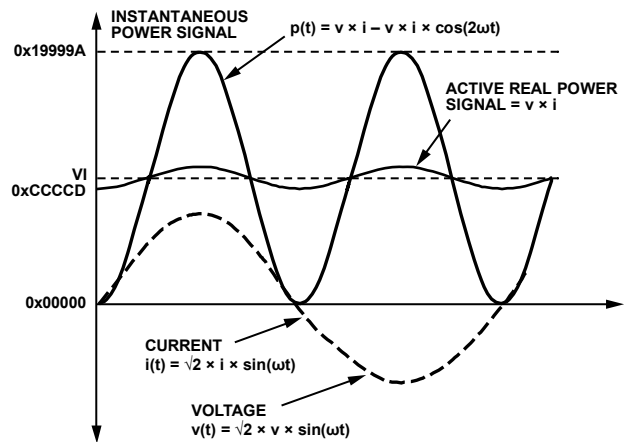

Figure 58. Active Power Calculation
Note that the active power is equal to the dc component of the instantaneous power signal $p(t)$ in Equation 8, that is, VI . This is the relationship used to calculate active power in the ADE7566/ADE7569. The instantaneous power signal $p(t)$ is generated by multiplying the current and voltage signals. The dc component of the instantaneous power signal is then extracted by LPF2 (low-pass filter) to obtain the active power information. This process is illustrated in Figure 58.
The ADE7566/ADE7569 also incorporate an active power offset register (WATTOS[15:0]). It is a signed, twos complement, 16-bit register that can be used to remove offsets in the active power calculation (see Figure 58). An offset can exist in the power calculation due to crosstalk between channels on the PCB or in the IC itself. The offset calibration allows the contents of the
As mentioned in the Active Energy Calculation section, the discrete time sample period (T) for the accumulation register is 1.22 μs (5/CLKIN). With full-scale sinusoidal signals on the analog inputs and the WGAIN register set to 0x000, the average word value from each LPF2 is 0xC5555 (see Figure 58). The maximum positive value that can be stored in the internal 49-bit register is 2⁴⁸ (or 0xFFFF,FFFF,FFF) before it overflows. The integration time under these conditions when WDIV = 0 is calculated in the following equation: